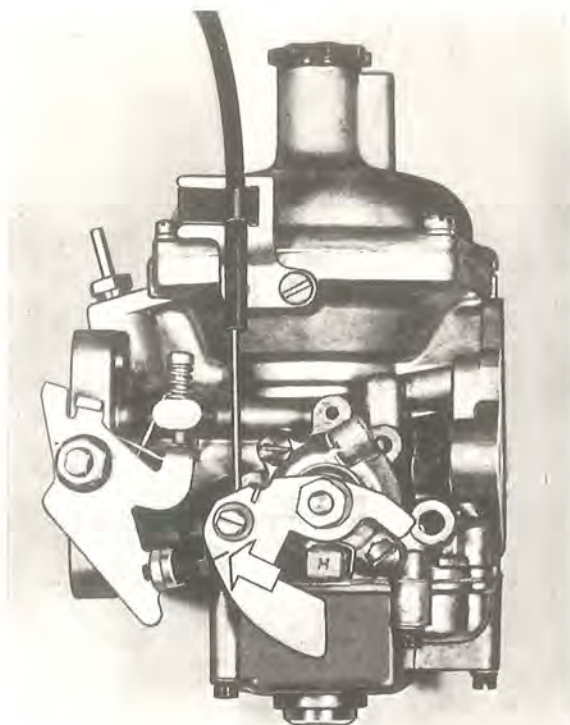

Fig. 2-65. Fast idle
6. Setting the rapid idle: pull out the choke control 23—25 mm (15/16") so that the mark on the rapid idle cam comes opposite the centre line of the rapid idle screw. See Fig. 2-65.